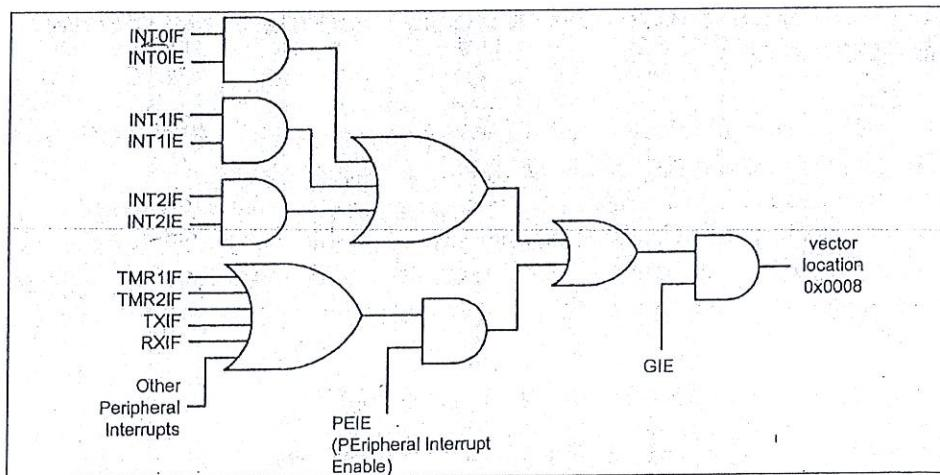

Figure 3 (b) / Rajah 3 (b)
- (b) With reference to Figure 3 (b), produce C program that used to enable external hardware INT0 (RB0) to push interrupt vector into interrupt Service Routine (ISR). Use Appendix A1 to A3 as references.